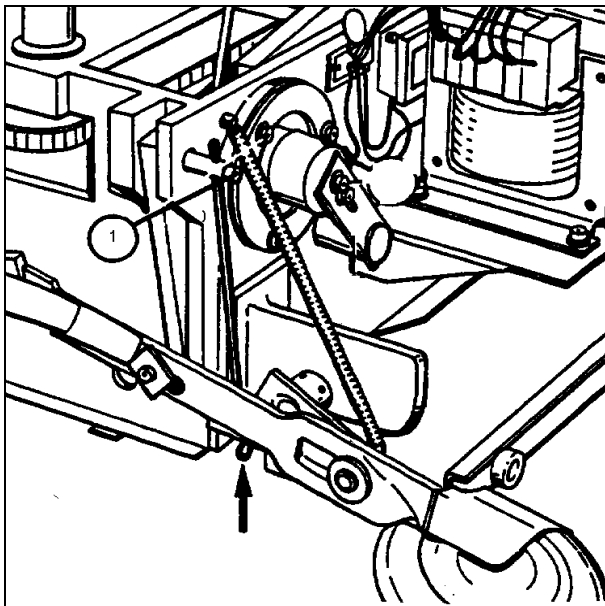

Fig. 1
- Hook the lever (arrow / Fig. 1) into the locking member.